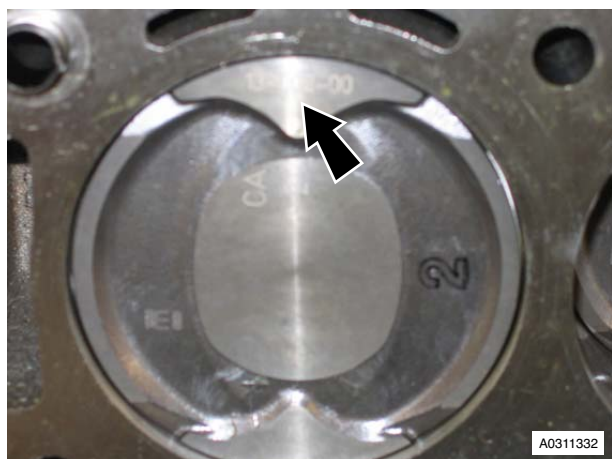

Figure 16
33. Note that piston grade number on crown and thick flange on connecting rod faces to front of engine on RH bank (A) (see Figure 16).